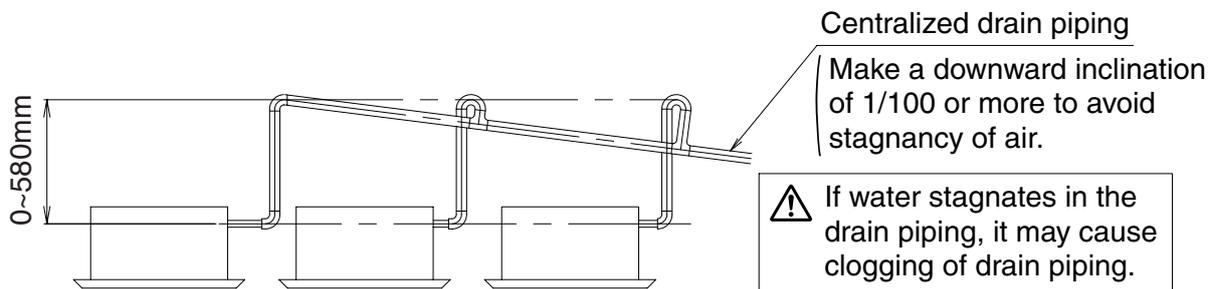

Fig. 14
- To avoid the attached drain hose (1) getting excessive force, do not bend nor twist it. It may cause water leakage.
- In case of centralized drain piping, carry out piping work according to the procedure shown in the following Fig. 14.